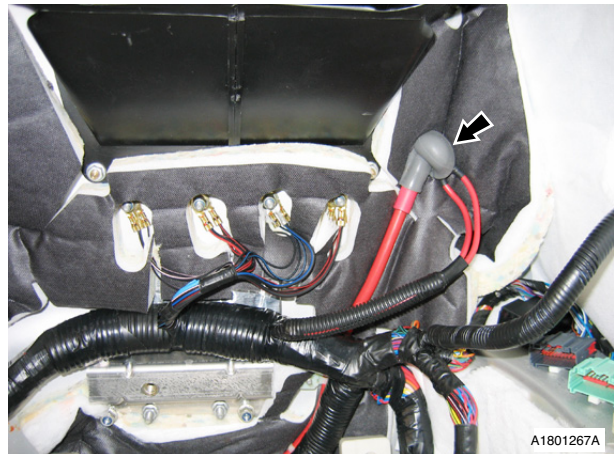

Fig. 8
37. Disconnect battery header (x1) (rubber boot) (see Fig.8).